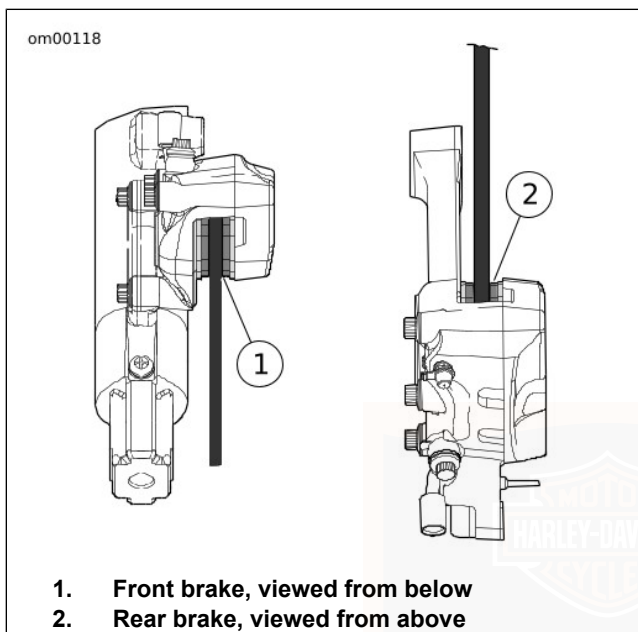

Figure 56. Brake Friction Material
1. See Figure 56. Check the rear brake disc as it spins. The disc should run true in the brake caliper.